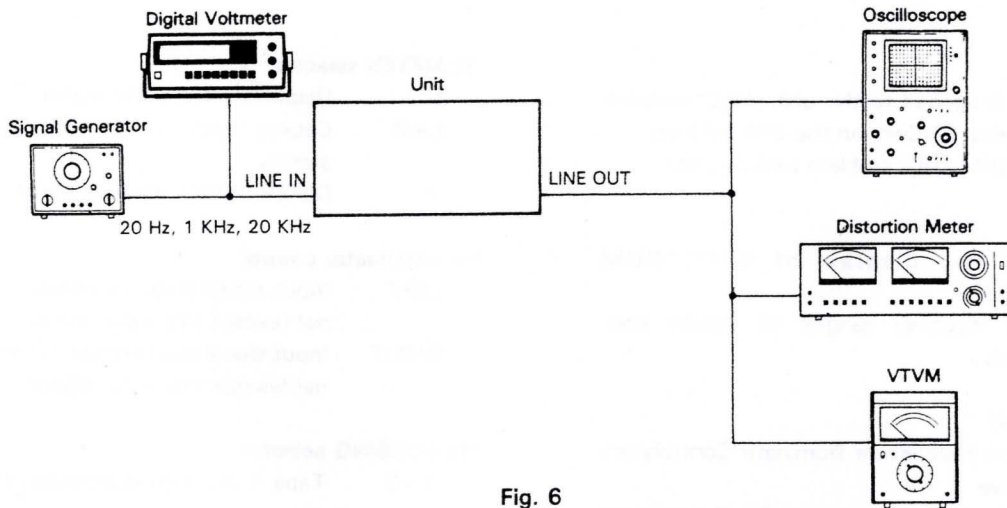

Fig. 6
1. Connect the test equipment to the unit as shown in fig. 6.